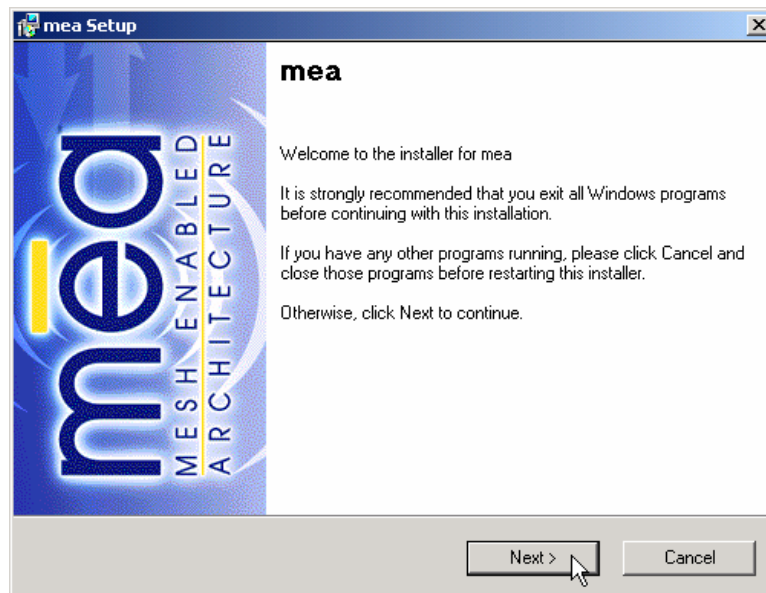

Figure 15. MEA Setup - Installer Setup Dialog Box
4. The MEA Setup program will be displayed as shown in Figure 15.